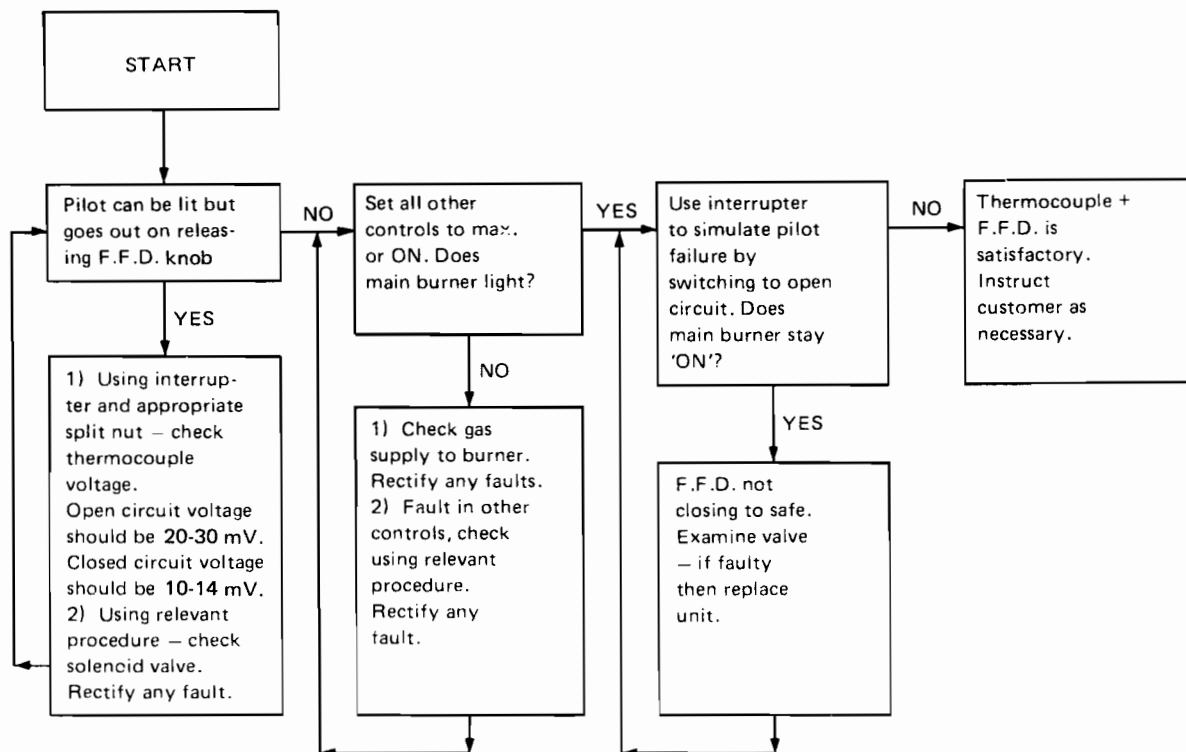

FIG. 15 F.F.D. AND THERMOCOUPLE
(5) Failure of thermocouple, power unit or latching mechanism.	After pilot has been on for 20 seconds, release control knob. If pilot goes out: (a) Check F.F.D. and thermocouple using procedure given in Fig.15. (b) If thermocouple has failed, replace as described in 7.C. Similarly, if control valve has failed replace as described in 7.D.